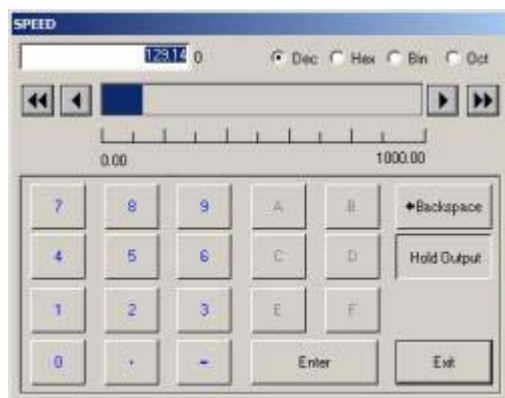

Figure 1.24 - CHANGE dialog Box for ANALOG tag
2. The Analog **Change Dialog Box** appears (Figure 1.24).
3. Click **Hold Output** to keep the dialog box open while making a change instantly effective (Figure 1.24).
4. Click the **Ramp Arrows** to change a value  (Figure 1.24).
- a. OR, Click the **number keys** in the Change Dialog Box  (Figure 1.24) to enter a value.
5. Click **Enter** to close the Change Dialog Box (Figure 1.24)
6. Click **Exit** to close the Point Info Dialog Box (Figure 1.24)  without making a change. (If Hold Output is depressed).